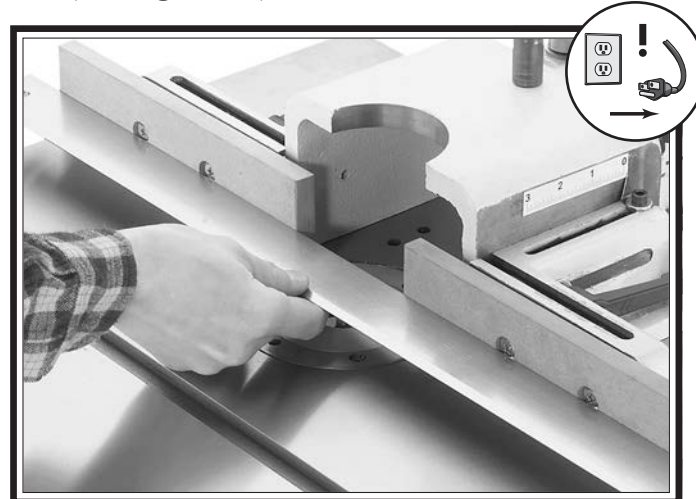

Figure 92. Example of aligning fence faces.
5. Place straightedge against both fence faces (see **Figure 92**).